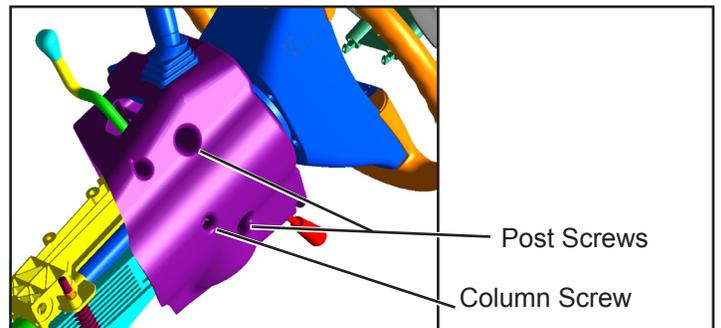

Figure 6 Removing Column and Post Screws (Bottom Side)
8. As shown in Figure 6, remove the steering column covers by removing the two post screws and one column screw with a Torx® driver. Separate the bottom and top cover halves. A wiring harness is attached to the bottom cover half and will prevent the cover from being removed from the steering column area. Complete removal of this cover is necessary to facilitate the installation of this kit.